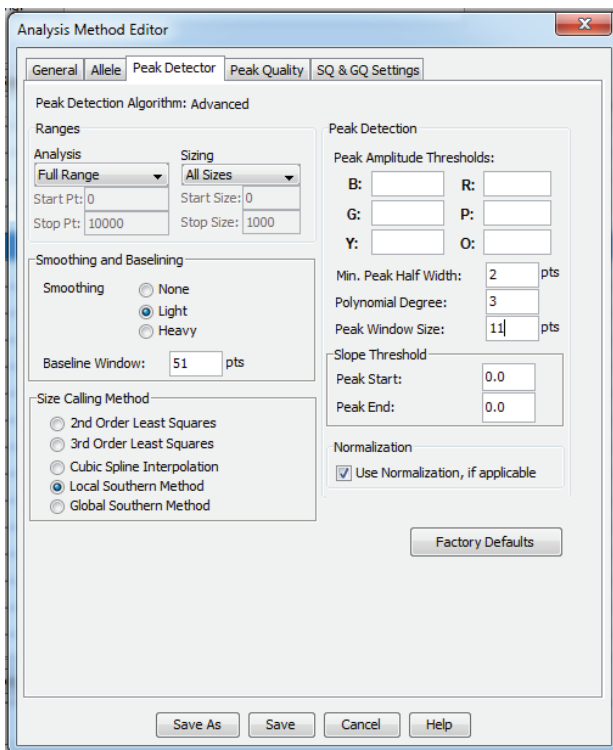

Figure 13. The GeneMapper® ID-X ‘Peak Detector’ tab.
9. Select the ‘Peak Detector’ tab (Figure 13). You will need to optimize these settings. In-house validation should be performed.
4. The peak window size shown in Figure 13 is not the default setting. It has been changed to 11 from the default value of 15. This ensures that the software can resolve alleles in the ladder that are 1 base apart for the larger loci such as D1S1656, D12S391 and D2S441.